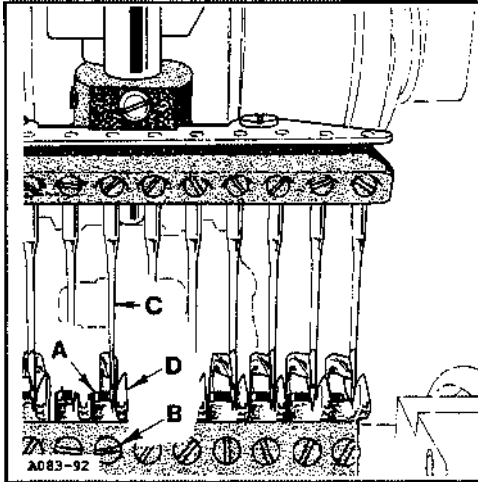

Fig. 7
The needle guard screws (A, Fig. 7) cannot be accessed once the loopers are tightened so the needle guards must be set first. Loosen looper screw (B) and swing the looper to the side so the needle will not strike it. Do not remove the looper because the needle guard looper hole must remain aligned with the hole in the looper holder. Turn the handwheel in operating direction until needles (C) are at their lowest point of travel. Position needle guard (D) so it touches but does not deflect the rear of needle (C). Tighten needle guard screw (A).